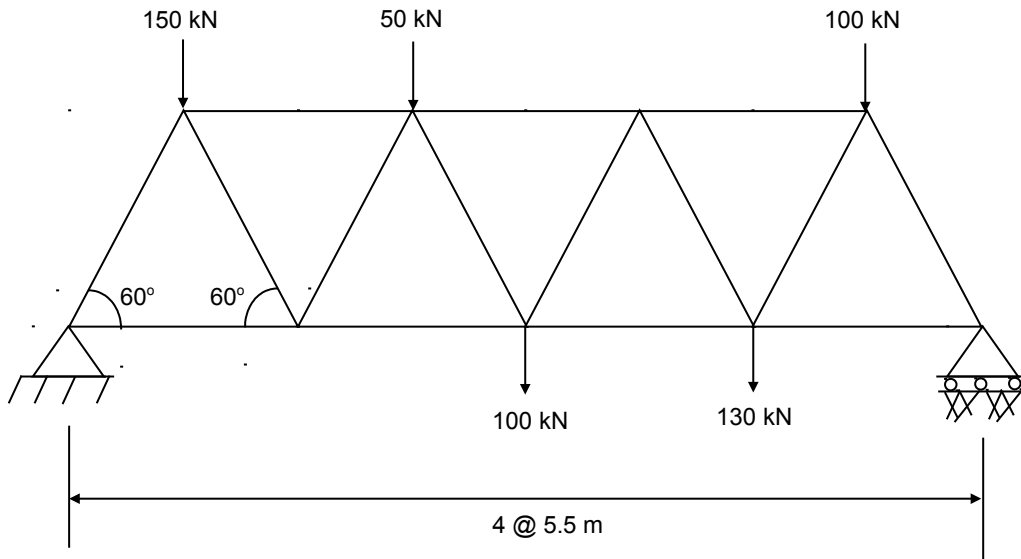

Figure 2
- Q.3 (a) Figure 2 depicts a truss girder. Determine the magnitude and nature of forces (stresses) induced in all its members for the given loading by: (i) method joints, (ii) method of sections, and (iii) graphical construction.